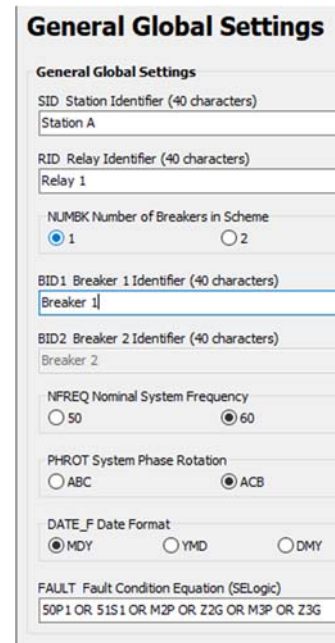

Figure 56: SEL 421 General Settings
- c. Under General settings (Figure 56), enter the following values: